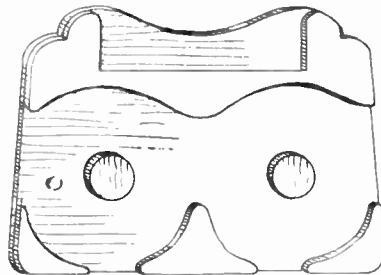

Fig. 1
To commence construction, trace the pattern pieces on to the required wood. Now cut the back, the inner front, the three lower spacing pieces and the two discs (B) and (C). These parts should now be assembled as shown by the dotted lines on the front of the design sheet, and the whole, when finished, should appear as Fig. 1.